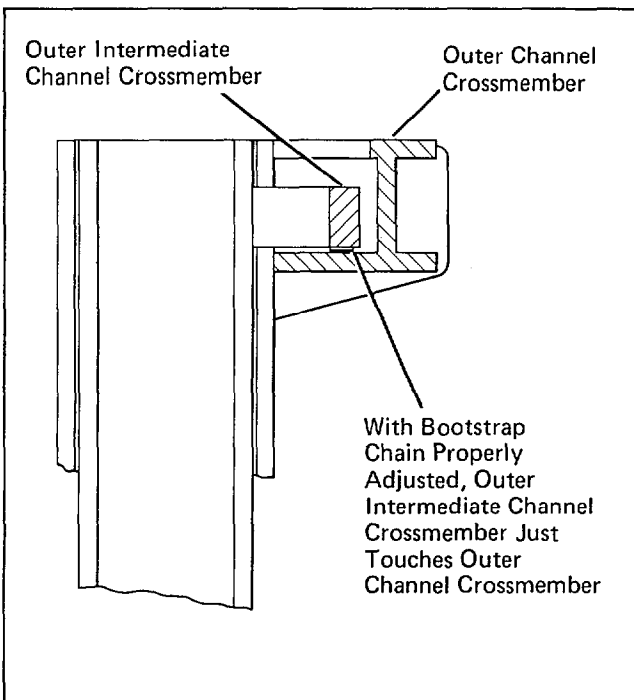

Figure 2-23 Bootstrap Chain Adjustment
- (b) The contact pad on the bottom of the outer intermediate channel crossmember must just touch the outer channels crossmember when the mast is fully collapsed. See figure 2-23.